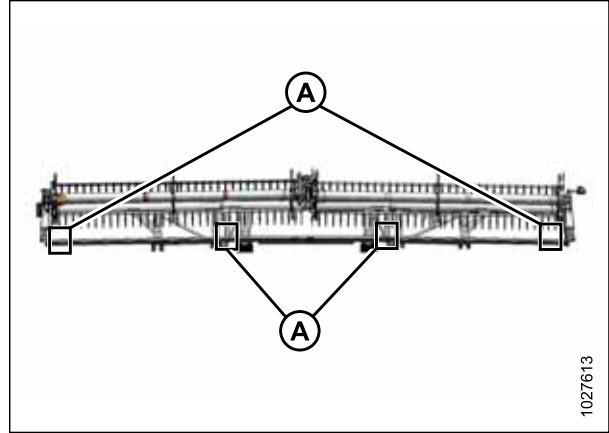

Figure 6.39: FlexDraper® Measurement Locations – Double Reel
- Double-reel headers: Figure 6.39, page 270